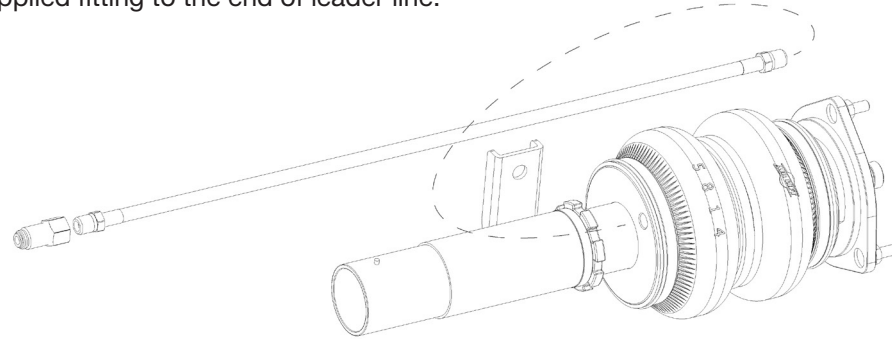

fig. 7
1. Prior to installing the strut, attach the leader line provided to the threaded port at the bottom of the air spring (Fig. 7). Seal with tape or thread sealant. Seal and thread supplied fitting to the end of leader line.